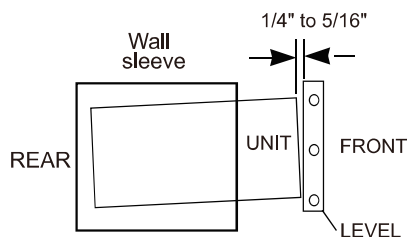

Fig.1
- When installation is complete, replacement unit MUST have a rearward slope as shown in Fig.1.